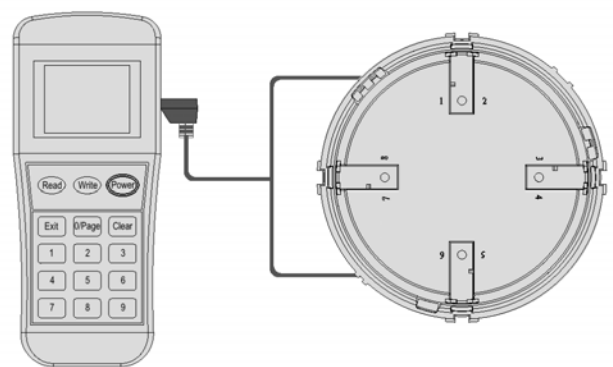
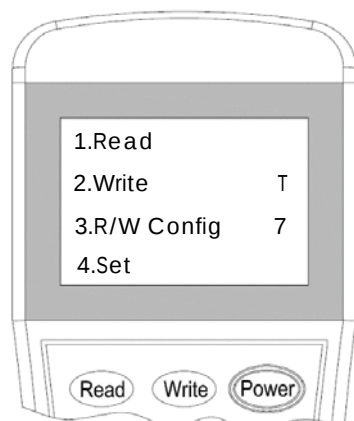

Fig.5 Connection of programming tool and Addressable Sounder Base
Fig.6 Main menu
1. Connect the programming cable to Z1 and Z2 terminals, as shown in Figure 5. Press "Power" to switch on the unit. The main menu after the boot as shown in Figure 6.
The encoding mode of the Addressable Sounder Base can be set by a programming tool. As shown in figure 11, the option corresponding to the number will be selected when a number is pressed at the interface shown in Figure 6. And then click the button “write”. The word “Success” or “Fail” on the screen means that the success or not of the encoding mode setting, as shown in figure 12 and figure 13.